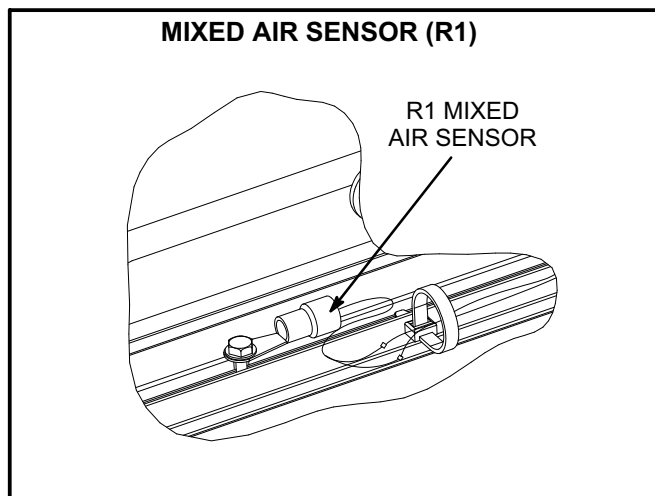

FIGURE 3
- 2- Install sensor in location shown in figure 3 and 4. Secure with single screw provided in kit.